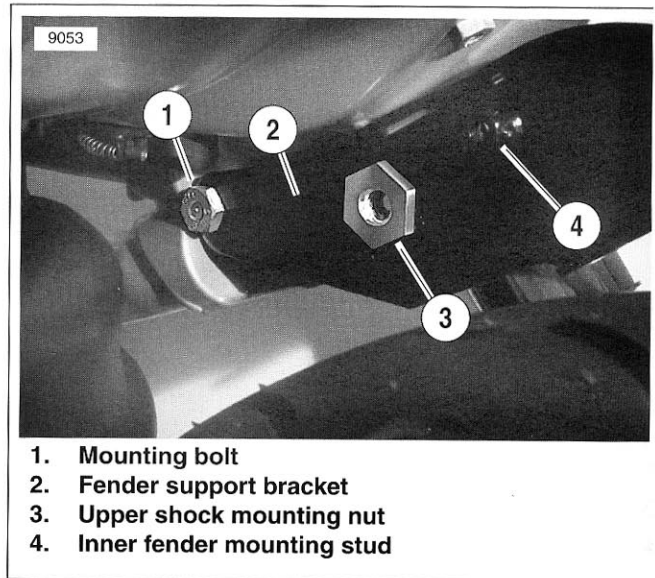

Figure 2-110. Right Side Fender Support Bracket
2. See Figure 2-110. Loosely install both fender support brackets (2). Finger tighten fasteners (1).
3. Insert upper shock mounting nut (3) through support bracket and into frame side rails.